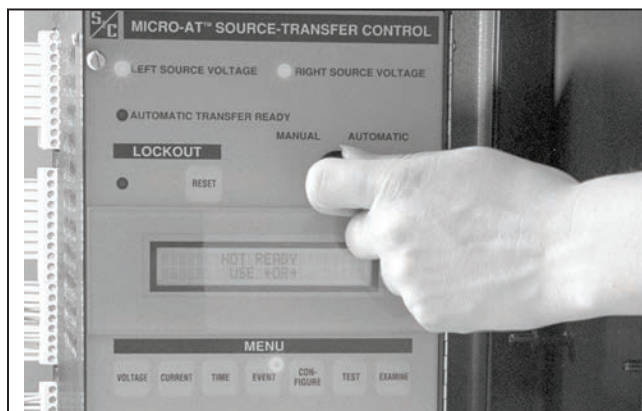

Figure 70. The MANUAL/AUTOMATIC switch on the Micro-AT Source-Transfer Control.
STEP 3. On the Micro-AT® Source-Transfer Control, place the MANUAL/AUTOMATIC switch into **Manual** mode. See Figure 70.